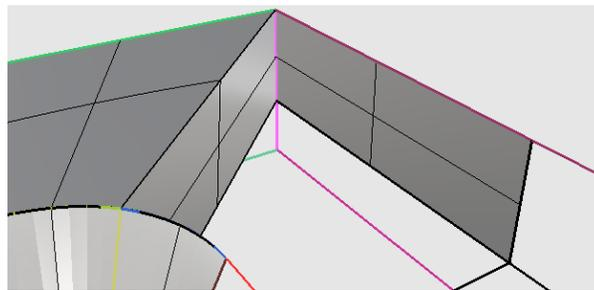

Figure 73: Completing the Loft operation
- Click on the vertical line opposite the highlighted edge to specify the second curve of the Loft. Hit **<ENTER>** to bring up the **Loft settings** dialog box. Click **OK** to complete the Loft (Figure 73).